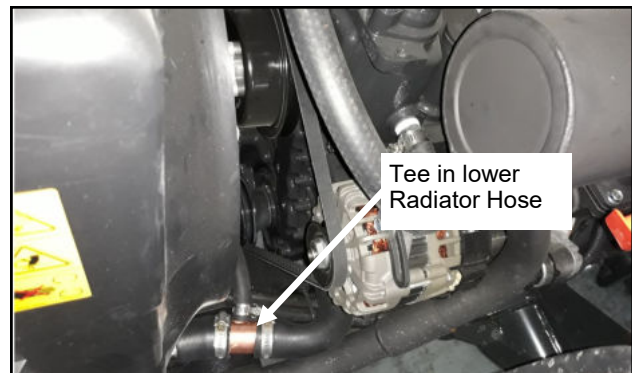

Fig. 14.3 (Lower Radiator Hose)
- 14.3 For the return line from the heater, cut the lower radiator hose in the location shown. See Figure 14.3. Install the enclosed T-fitting with large hose clamps provided. **NOTE:** Spray the inside of the cut hose and the fitting with brake cleaner to ease installation.